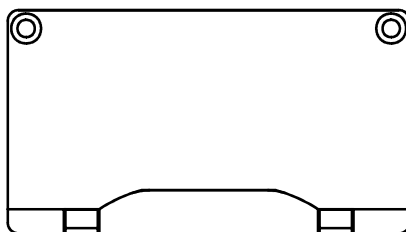

Fig. 4
- (1) Up to two (2) wireless receiver modules can be installed.
- (2) Each receiver has built-in Pilotone & NoiseLock circuitry which reduces noise interferences.
- (3) Unscrew the 2 screws from the MA-707-X filler panel and remove the filler panel before installing the receiver module. After the screws and filler panel have been removed, insert receiver module into the empty slot and push it back to it's mating connector. Uses the screws removed previously to fasten the receiver module in position.
(C) MA-707-X Filler Panel, Fig. 4: